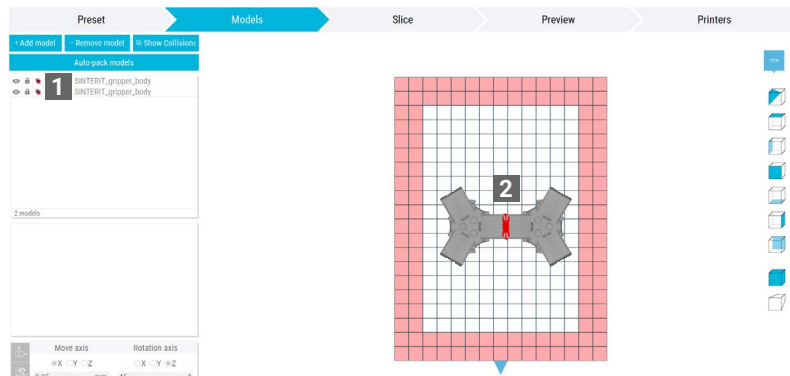

Fig 2.26 Collision of models.
It may happen that you won't see the overlap of the models. You can check this easily. Just select the **Show Collisions** button. If the models overlap, collision icons (1) will appear next to the model names and the area where the contact occurs will be indicated in red (2) (Fig 2.26).